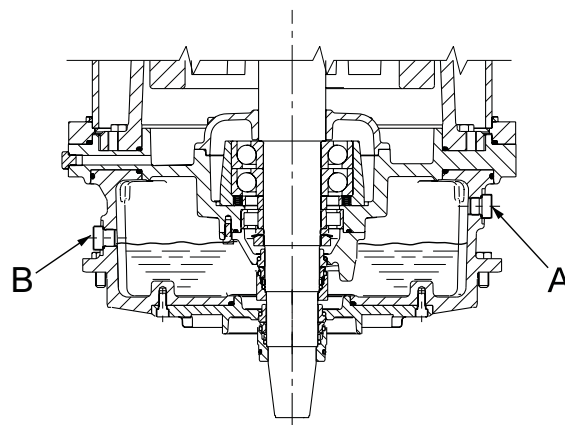

Fig. 8 Correct oil level of upright pump
2. Proceed as above and use screw B again for indication of the level of oil in the oil chamber. See fig. 8.